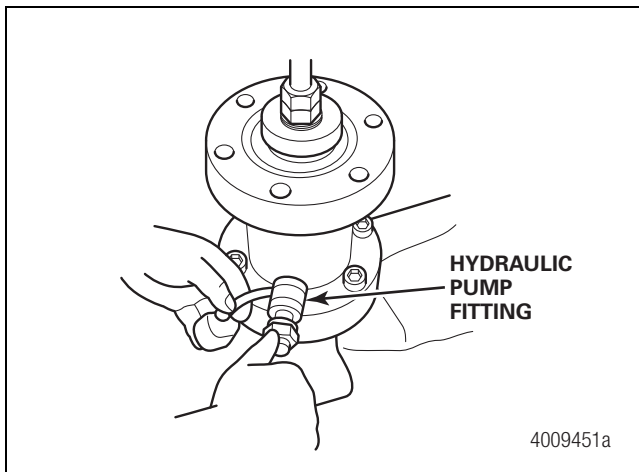

Figure 10.24
12. Connect the hydraulic pump line to the fitting on the ram and tighten the collar. Figure 10.24.